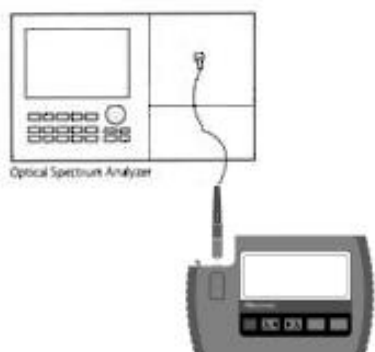

Figure 5. Test set-up for the centre wavelength and spectral bandwidth
1. Connect the equipment as shown in Figure 5.